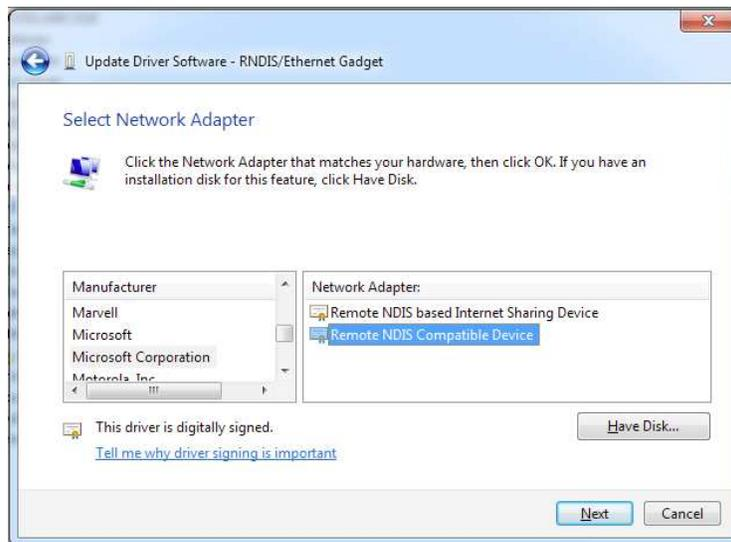

Figure 2-9. Windows 7 Update Driver Software Select Network Driver Window
7. Select "Microsoft Corporation" as the manufacturer and “Remote NDIS Compatible Device” as the network adapter. Click "Next." See Figure 2-9.